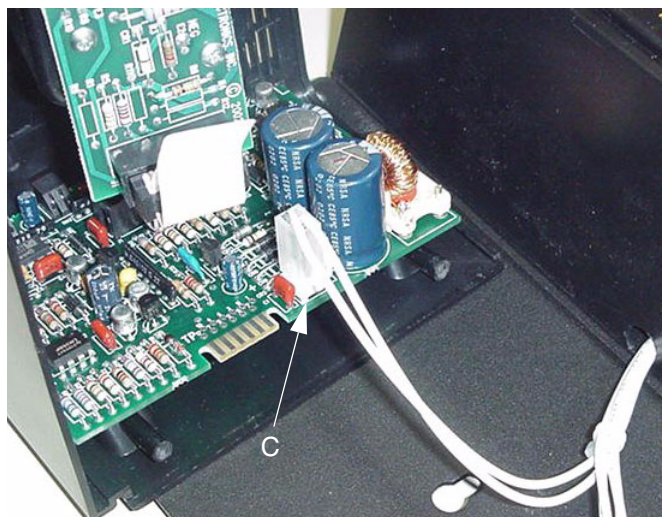

FIG. 2
4. Fasten the two-wire connector (C) (this was disconnected in **Disassembly** step 7) to the new extender unit. Make sure the plug step is positioned towards the white connector. See FIG. 2.